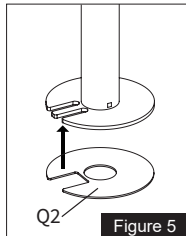

Figure 5
4. Attach soft pad (**Q2**) to the grommet base plate (**K**), see Figure 5.